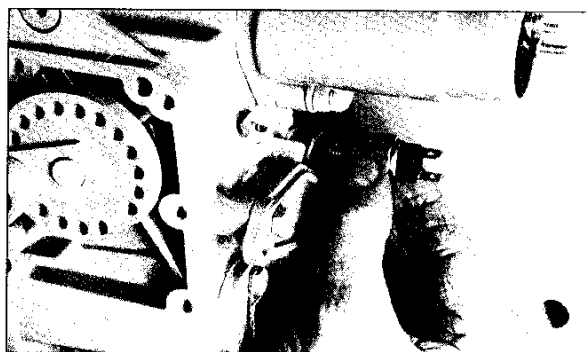

FIG. 1.1.6
1. Start engine and check low idle RPM. Disconnect the throttle linkage and adjust the idle per Caterpillar specification by turning the switch clockwise to increase and counterclockwise to decrease engine RPM (Fig. 1.1.6).